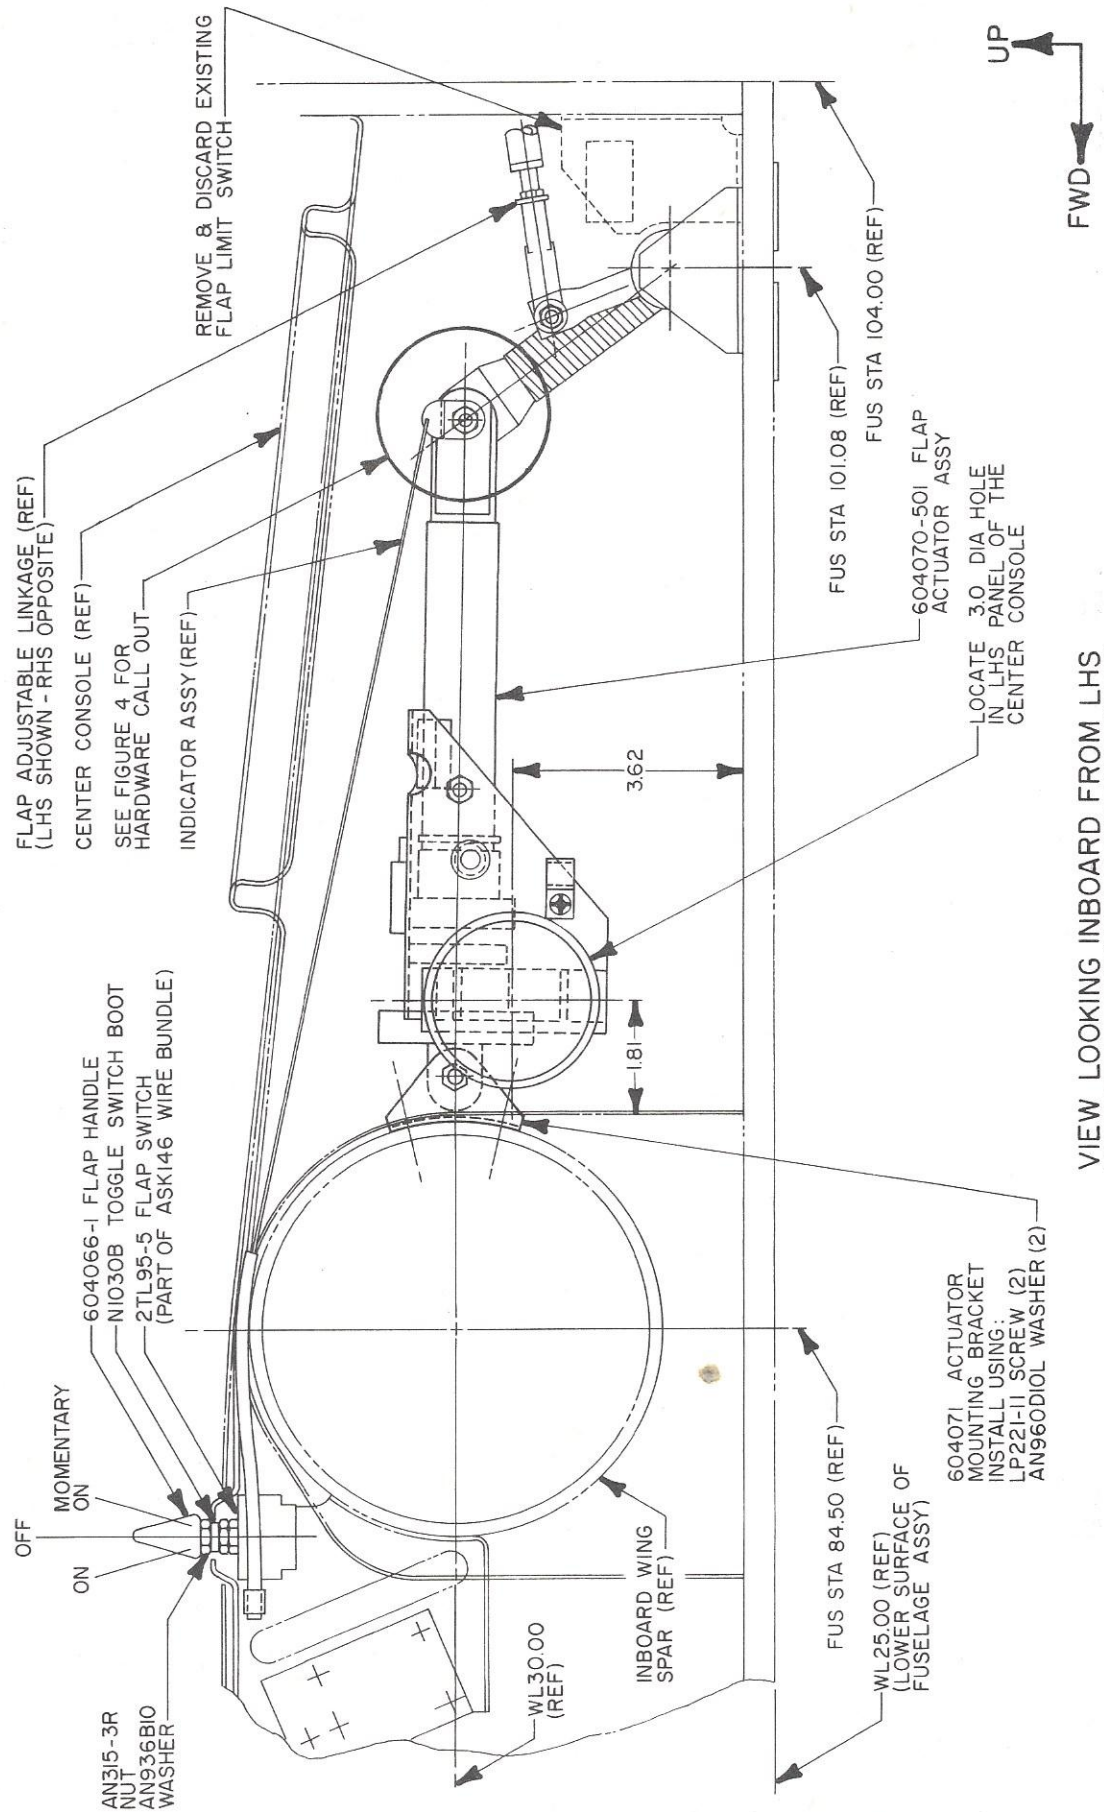

FIGURE 2
- B-5 Remove 604062-9 Flap Actuator Assembly. Remove 604060-1 Bracket. Discard flap actuator and mounting bracket. See Figure 2.
- B-7 Install 604070-501 Actuator Assembly using hardware supplied in kit. See Figure 2 and Figure 4.
- B-8 Install ASK Wire Bundle Assembly (see Figure 3) and flap handle retained in Step B1 (see Figure 2). Do not remove flap switch from wire bundle.
- C-5 Remove 604062-9 Flap Acuator Assembly. Remove 604060-1 Bracket. Discard flap actuator and mounting bracket. See Figure 2.
- C-7 Install 604070-501 Actuator Assembly using hardware supplied in kit. See Figure 2 and Figure 4.
- C-8 Install ASK wire bundle assembly (see Figure 3) and flap handle retained in Step C1 (see Figure 2). Connect plug on wire bundle to plug on flap actuator assembly. See Figure 3. Do not remove flap switch from wire bundle.
- E-1 Using dimensions shown in Figure 2, cut a hole in the left side of the console to allow flap motor to protrude. Slot at top is for clearance of wiring. See Figure 2.